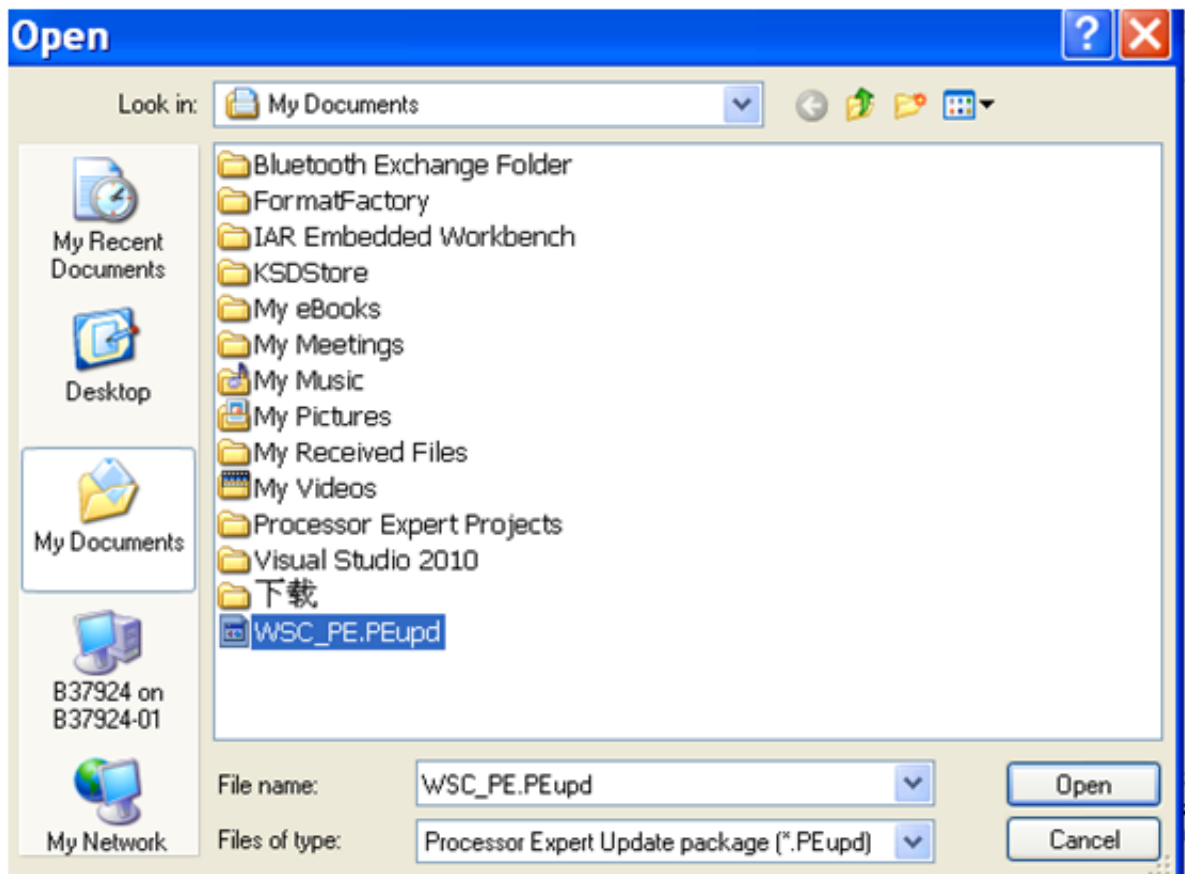

Figure 2. Select WSC component
3. Select the file WSC_PE.PEupd and click the Open button, refer to Figure 2